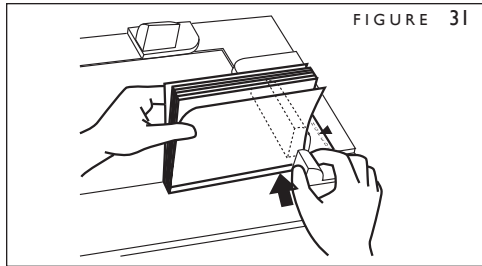

FIGURE 31
1. Measure the bound book block with the Book Width Gauge on the lower right side of the Hardcover Guide to determine the proper Fastback Hardcover width (Figure 31).